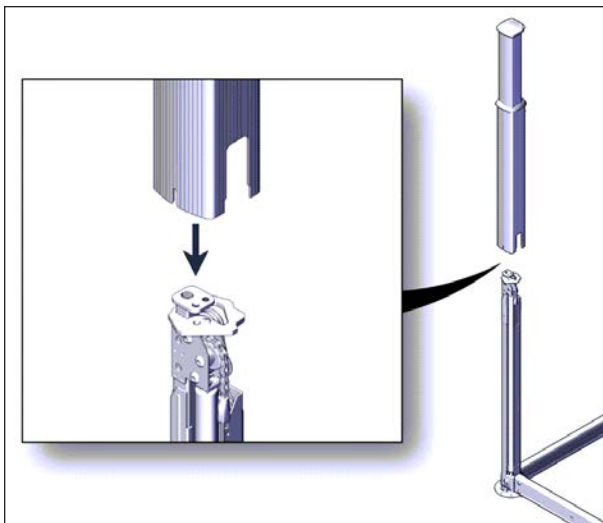

FIGURE 46: SLEEVE INSTALLATION
19. Slide the sleeves over all four jacks see Figure 46.